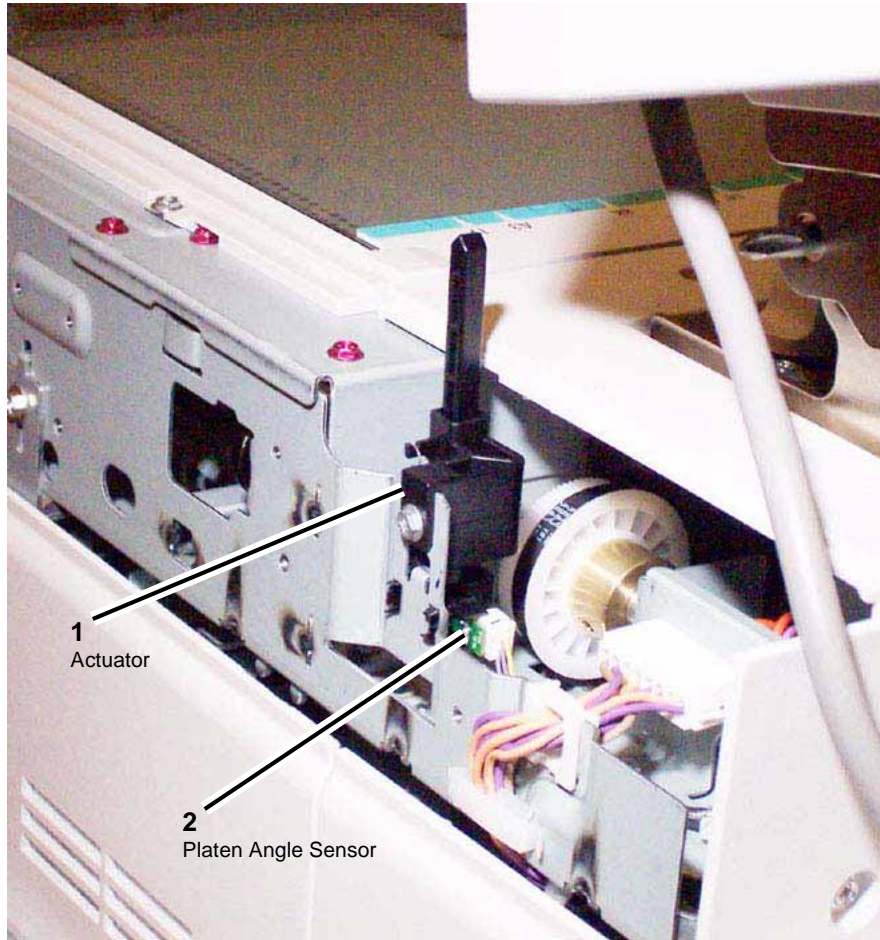

Figure 1 Actuator and Platen Angle Sensor
- a. Remove (4) securing screws.
4. Disconnect the Actuator. Figure 1
5. Remove the Platen Angle Sensor. Figure 1